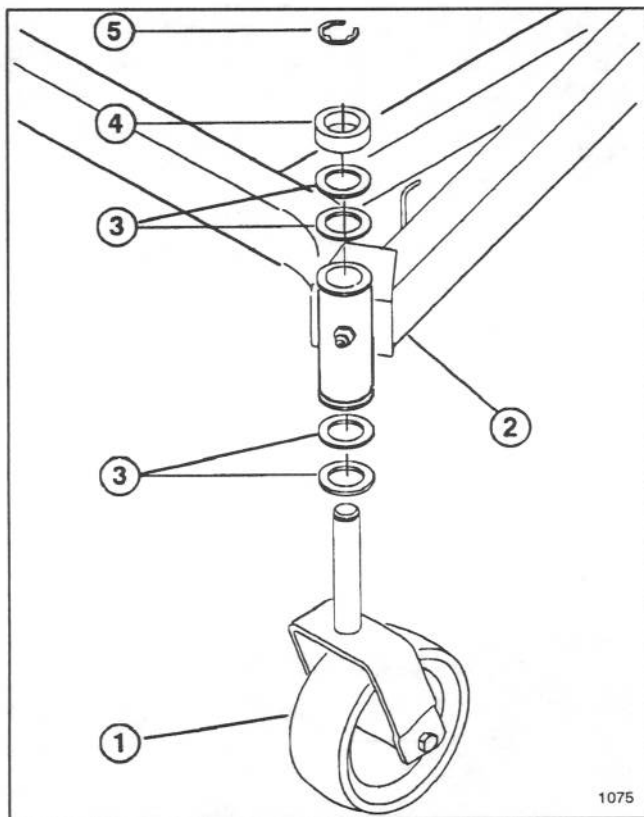

Figure 1
1. Place two (2) thrust washers onto castor wheel shaft (Fig. 1).
2. Insert shaft into carrier frame mounting tube. Install two (2) more thrust washers and spacer onto shaft and secure with retaining ring (Fig. 1).